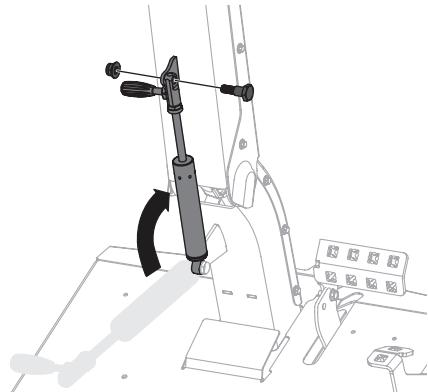

Figure 13
- While holding steering wheel column in a raised position, use other hand to raise tilt locking cylinder, aligning holes in top of cylinder with holes in cylinder mounting plates on the underside of the steering wheel column (Figure 13).
- Working from right to left, install shoulder screw through holes aligned in Step 4 and secure with hex flange lock nut. Torque the shoulder screw to 120-144 in-lbs (14-16 N·m) (Figure 13 on page 10).